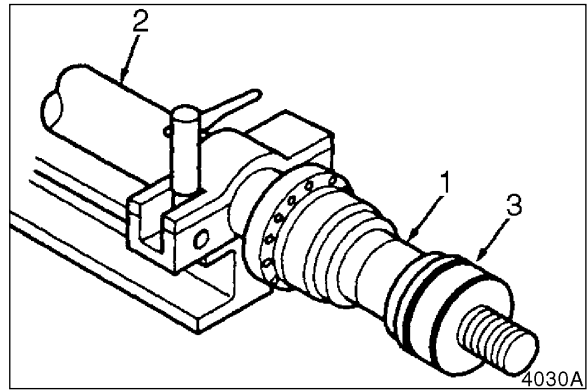

Figure 33
19. Install cushion flange (1, Figure 33) on cylinder rod (2). Slide piston assembly (3) onto cylinder rod (2).